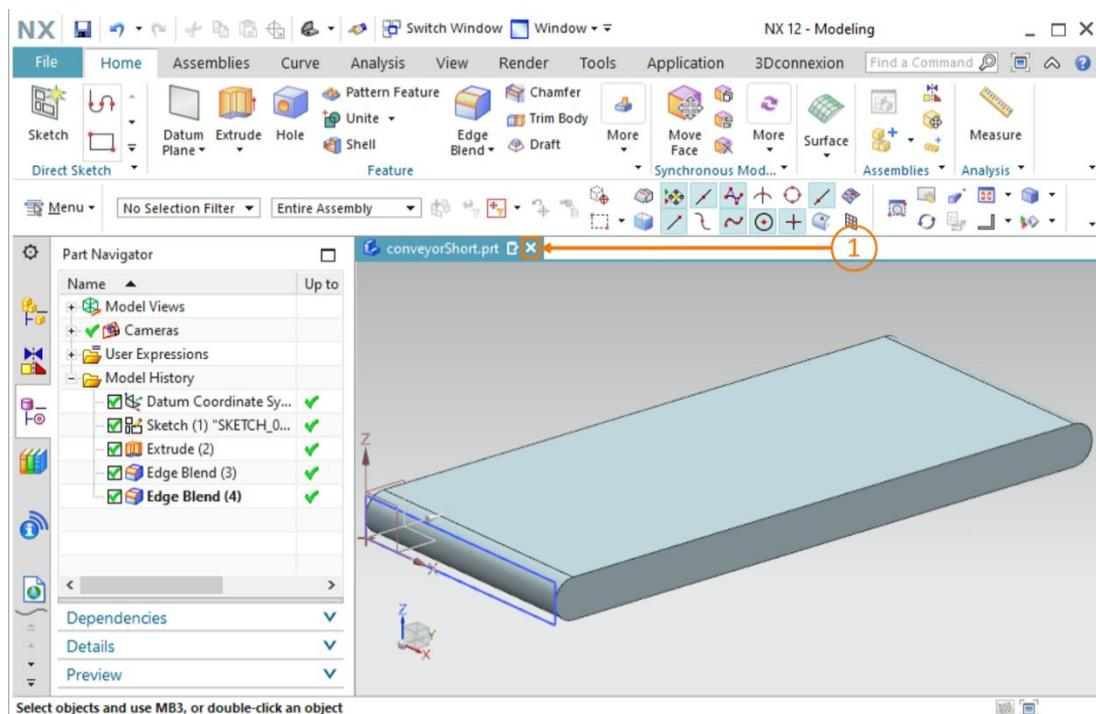

Figure 24: Closing the finished 3D model of the conveyor belt
- The modeling of the transport surface is now complete. Switch back to the trimetric view to save and close the model (see Figure 24).